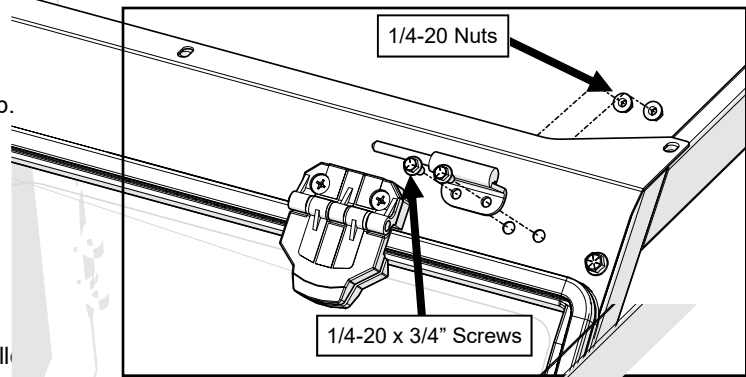

Fig. 2.1a (Left Hinge Pin Orientation)
- 2.1 Loosely install the left and right hinge pins to the windshield support as shown in Figures 2.1a and b.